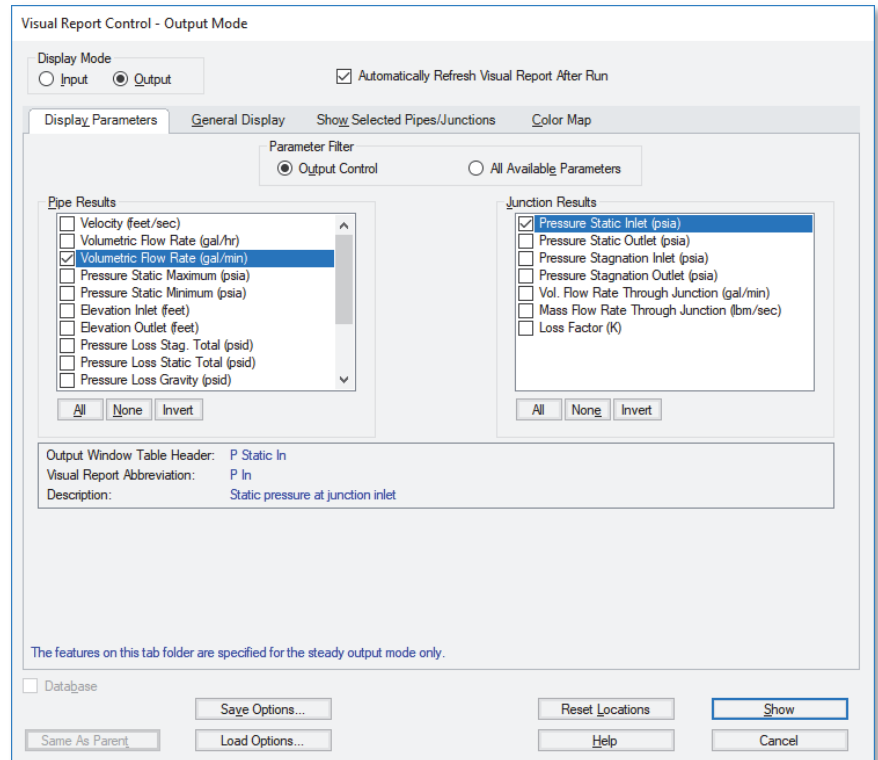
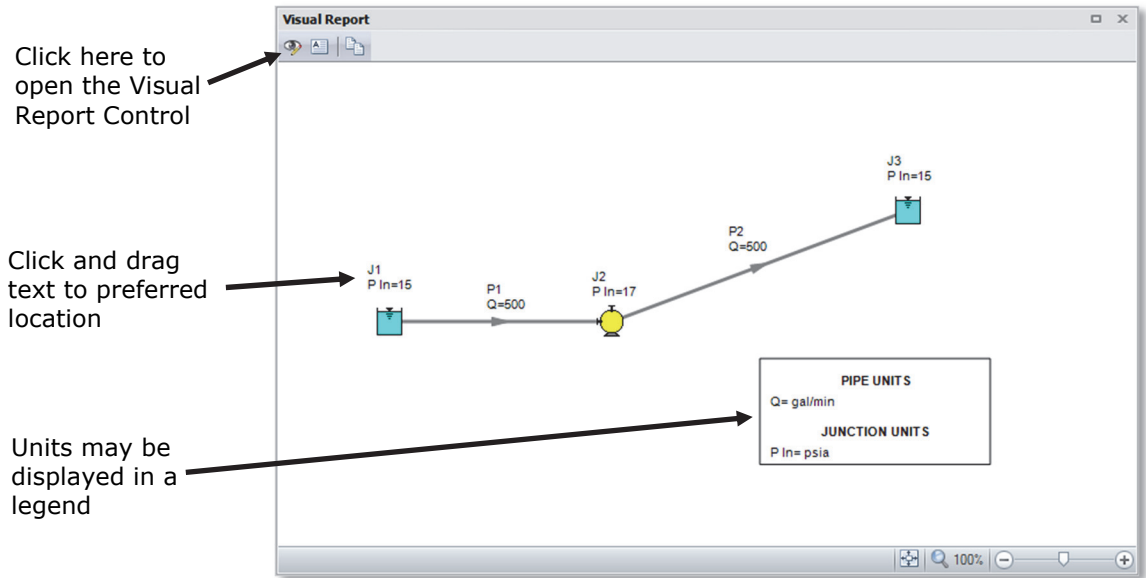

Figure 2.21 The Visual Report Control window selects content for the Visual Report window
Figure 2.22 The Visual Report integrates results with model layout
- **Click the Visual Report Control button on the Visual Report Toolbar** (or View menu) and open the Visual Report Control window, shown in Figure 2.21. Select Volumetric Flow Rate in the Pipe Results area and Pressure Static Inlet in the Junction Results area. Click the Show button. The Visual Report window graphic is generated (see Figure 2.22).
clarity of the display. These adjustments have already been done in Figure 2.22. This window can be printed or copied to the clipboard for import into other Windows graphics programs, saved to a file, or printed to an Adobe PDF file.